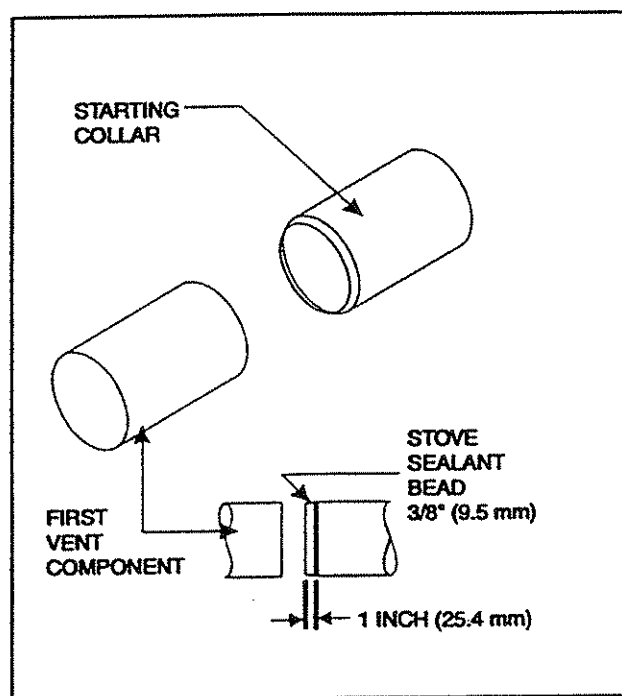

FIGURE 21
**WARNING:** A 3/8-inch bead of stove cement **MUST** be placed around the 5-inch fireplace starting collar before attaching the first vent component. Failure to seal this joint, may cause the fireplace to not operate properly. See Figure 21.